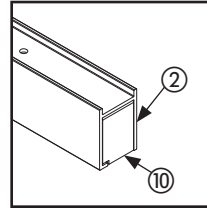

Figure 4. Matching End Cap to Rail
Place rail in configuration seen in Figure 4.
- Rotate the end cap to the top of the rail as shown in Figure 4.